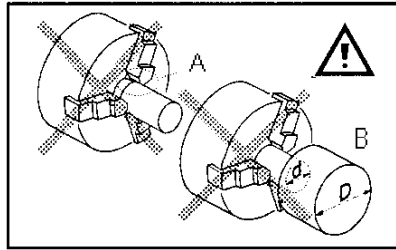

Fig 5
Avoid short clamping contact (A, Fig 5) or clamping on a minor part diameter (B).